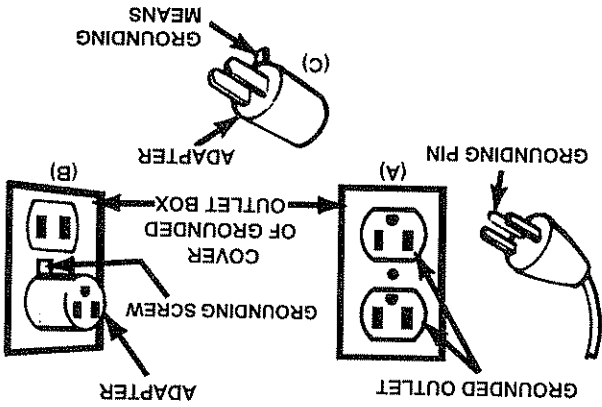

FIGURE 1 GROUNDING METHODS
This battery charger is designed for use on a nominal 120 volt circuit and has a grounded plug that looks like the plug illustrated in FIGURE 1 (A). This plug should be used in a grounded outlet. The plug pins must fit the receptacle (outlet).
ADAPTER: A temporary adapter, as shown in FIGURE 1 (B) and (C), may be used to connect the charger plug to a two pole receptacle outlet as shown in FIGURE 1 (B).